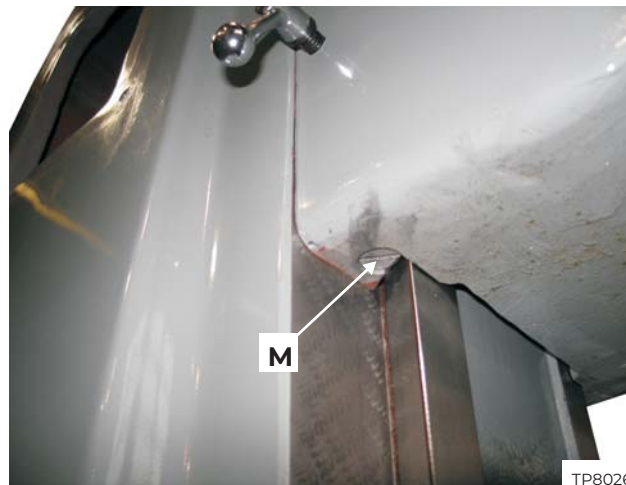

Figure 3.18 - Lower
- A) Loosen lower gib screw "M", Figure 3.18.
- B) Tighten lower gib screw "M" Figure 3.18, slightly and test the knee movement.